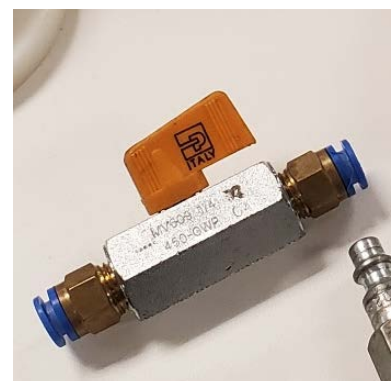

Figure 5
3. Motor Rate Control Valve (Figure 5)
4.6 Attach jumper tubing to Motor Rate Control Valve (Bypass switch can also be used) provided in Blowing head or ordered separately. See Figure 5.